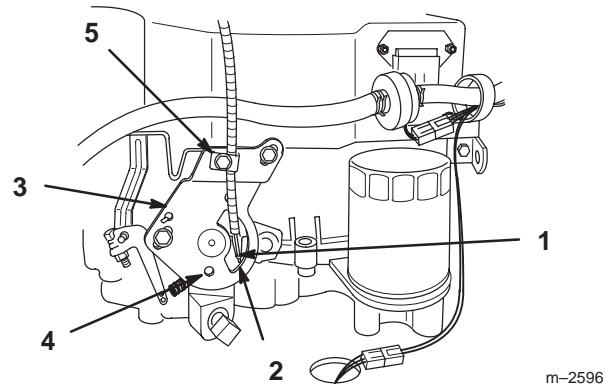

Figure 7
1. Place throttle control lever in the fast position (Fig. 7).
2. Hook wire Z-bend into hole of speed control lever (Fig. 7).
3. Loosen cable clamp screw allowing cable installation, but do not tighten (Fig. 7).